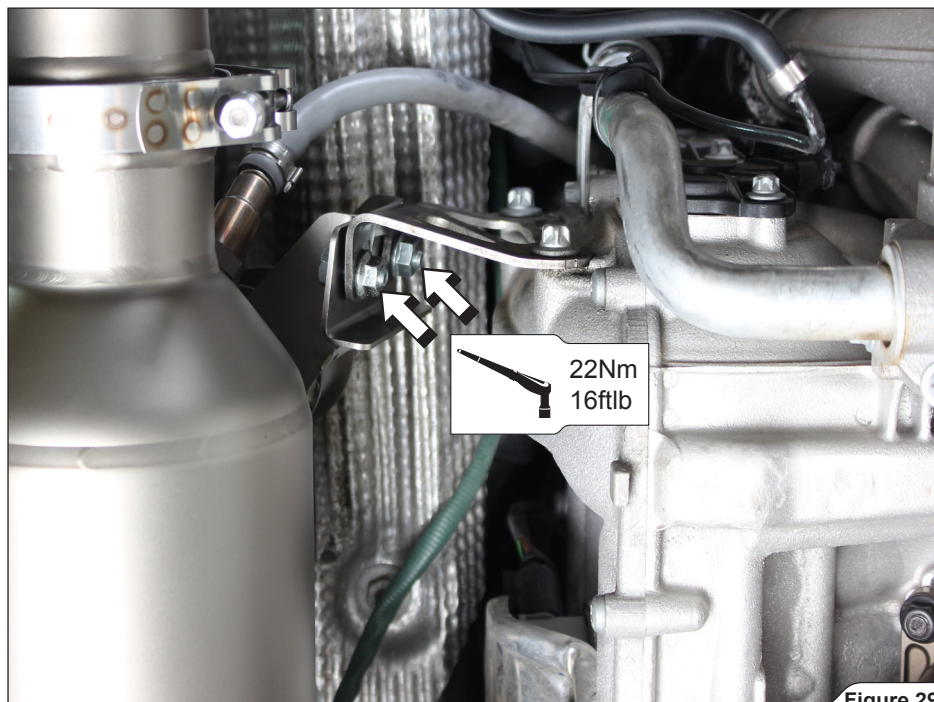

Figure 29
16. Correctly align and tighten side mufflers. Tighten the bracket bolts and connection clamps on both sides of the vehicle, to the specified torques (**Figure 29, 30**).